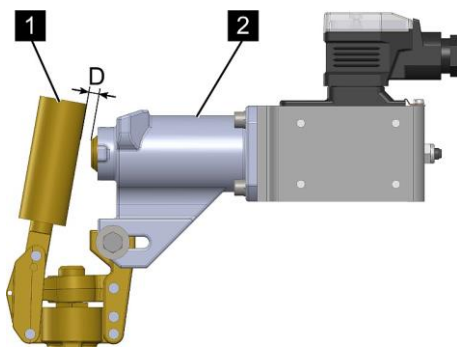

Fig. 109: Aligning the EM release device
10. ➤ Align the EM release device in such a manner that the distance between release pin (Fig. 109/1) and valve lever is (Fig. 109/2) 3 ± 1 mm.